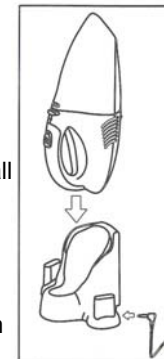

Fig. 1
- Place the unit in the charging base. The charging indicator light will shine green to indicate that the vacuum cleaner is properly positioned in the charging base and that the unit is being charged. (See fig. 1)